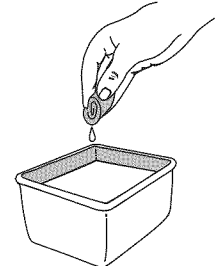

Fig. 23
- Wash the filter in detergent and water (Fig. 23). Rinse the filter thoroughly and allow it to dry.